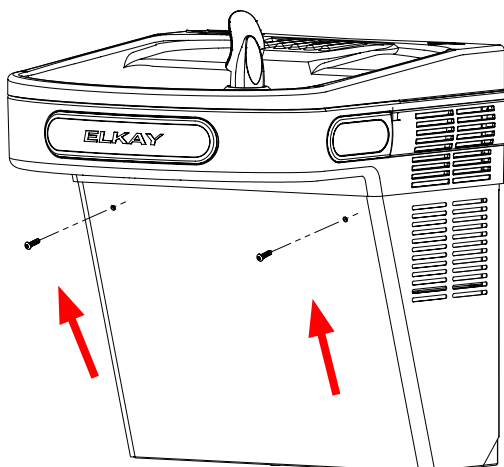
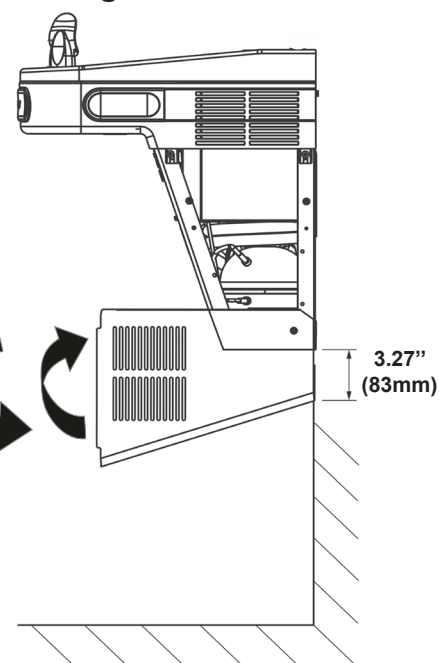

Fig. 2
Fig. 5
1. Remove the two security screws (size T25) from the front panel. (see Fig. 2)
1. Ensure that there are no plumbing or external objects below the wrapper in the specified dimension. The specified (3.27") minimum distance is required for the wrapper to swing out (see Fig. 5).
2. Refer Fig 2 to Fig 5, Pg. 8 for wrapper removing instructions.